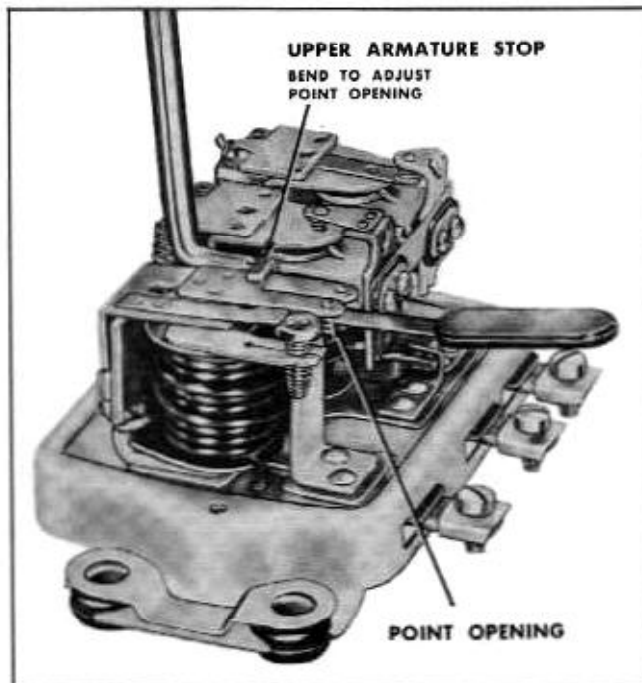

Fig. 12-25 Adjusting Cutout Relay Point Opening
2. Check point opening and adjust to .020" by bending upper armature stop (Fig. 12-25).